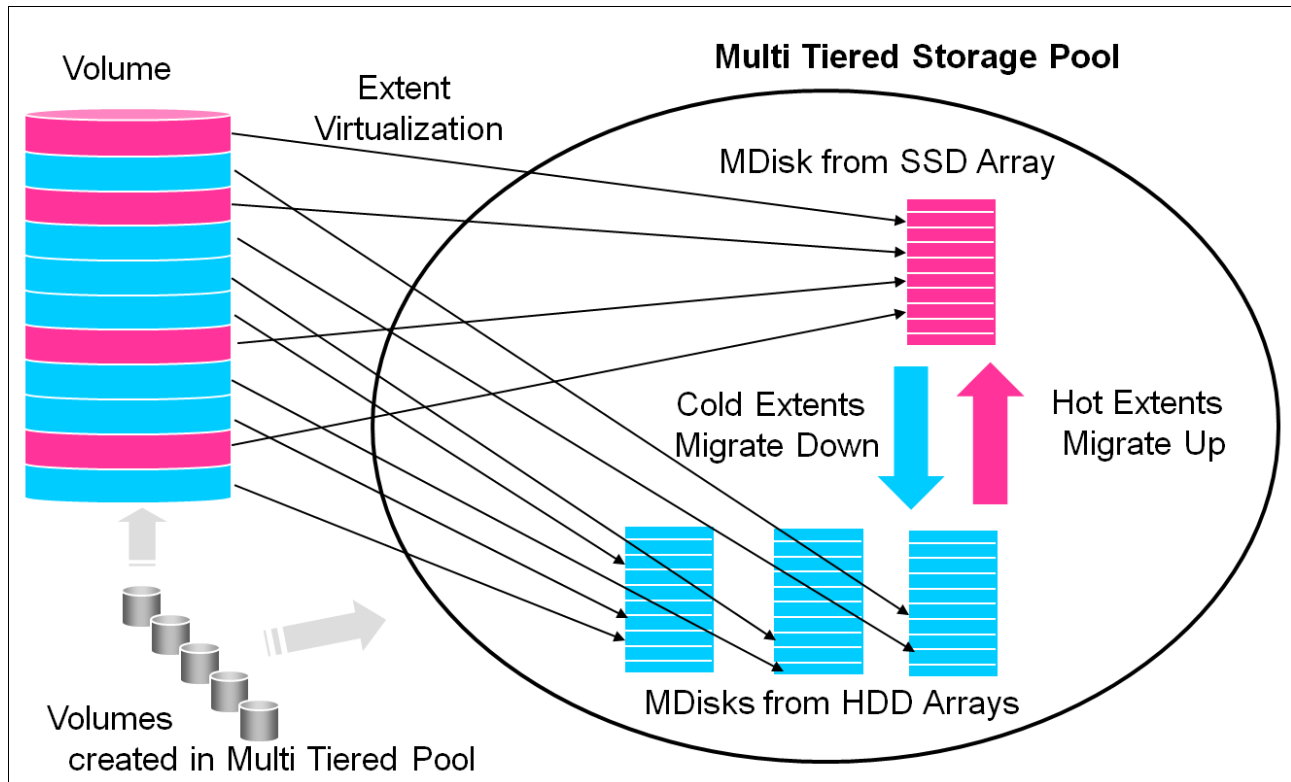

Figure 9-4 Easy Tier Data Migrator
The Data Migrator (DM) process involves scheduling and the actual movement or migration of the volume's extents up to, or down from, the high disk tier. The extent migration rate is capped to a maximum of up to 15 MBps. This rate equates to around 2 TB a day that is migrated between disk tiers, as shown in Figure 9-4.